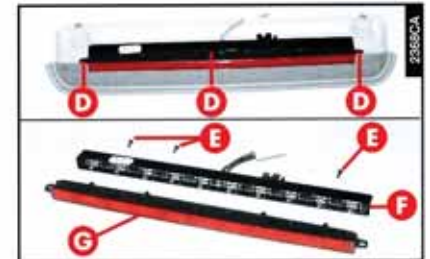

fig. 24
- Slacken the screws (**D-fig. 24**) fastening the light unit to its support.
- Slacken the screws (**E-fig. 24**) fastening the bulb holder (**F-fig. 24**) to the transparent unit (**G-fig. 24**).